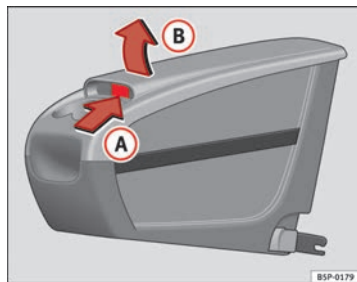

Fig. 111 Mobile storage compartment. Opening
- Lift the cover **(B)**, in area **(A)** ⇒ Fig. 111.